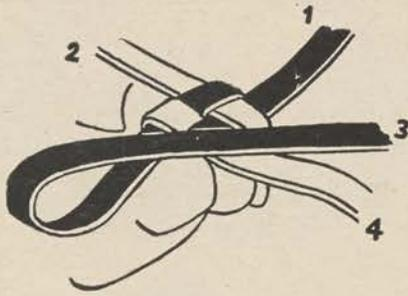

Figure 154.
*d.* Square braiding can be given a spiral pattern in the following manner. The first square is formed as above. In making the subsequent squares, the strands are carried diagonally across instead of straight over (fig. 154).